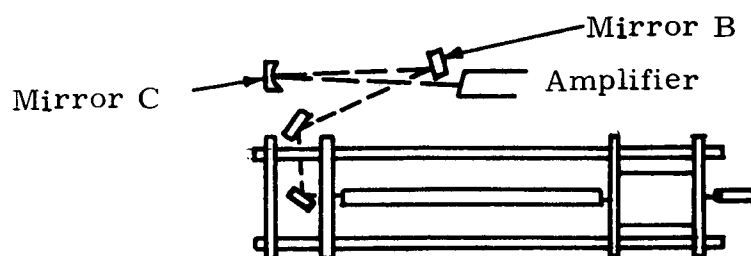

Figure 5. Mirror Geometry
7. Remove power meter and adjust mirror A and B so that the beam hits the center of the spherical mirror C. To check this, place the aluminum mirror cover with the needle in the center (should now be beside the mount in the box) (see figure 5).